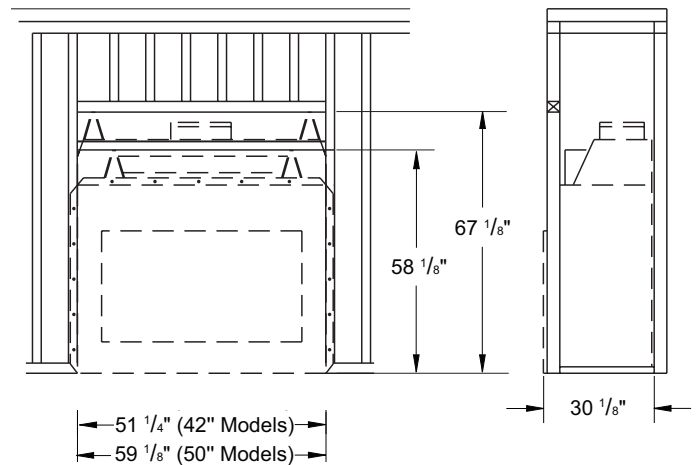

Figure 3 - Framing Dimensions
1. The location must allow for proper clearances (see Figures 3 and 4).
1. Frame opening for fireplace using dimensions shown in Figures 3 and 4.